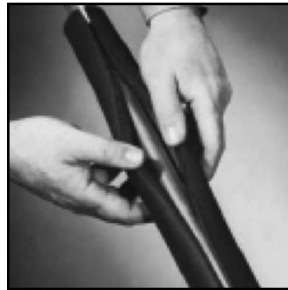

FIG. 3 Apply Unslit Insulation to Straight Pipe
10.1.1 Slit tube in a straight line (Fig. 3). Apply a thin brush coat of contact adhesive to each seam. Slip the insulation over the pipe. Allow adhesive to properly set and press seams together at each end – working toward the center. Seal all butt joints, cut outs and termination points with adhesive.